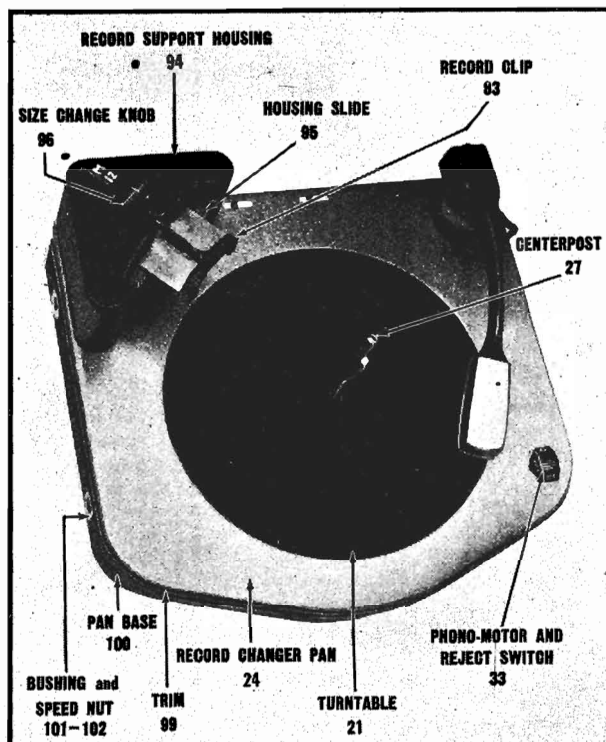

Figure 1. Record Changer, Top View
If the size-change knob does not slide back freely, the setting may be changed by pushing against the front of the record clip (83) when it is in the downward position as shown in Figure 1.
### 7. ADJUSTMENT OF SET-DOWN POINT (See Figures 1 and 8)